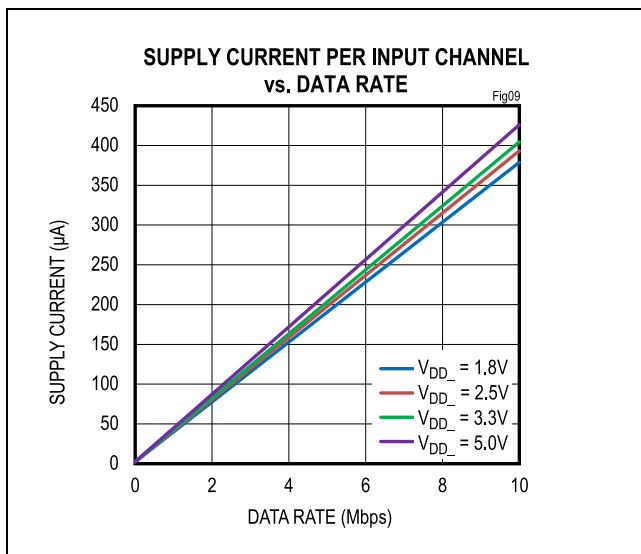
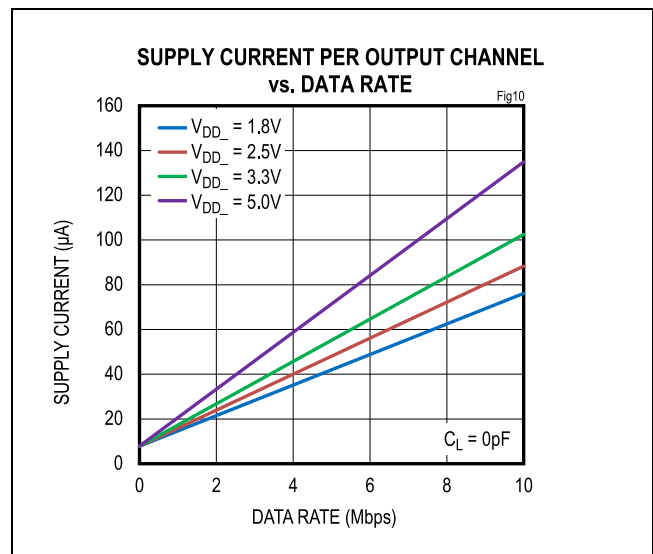

Figure 9. Supply Current per Input Channel (Estimated)
Figure 10. Supply Current per Output Channel (Estimated)
The required current for a given supply ( $V_{DDA}$  or  $V_{DDB}$ ) can be estimated by summing the current required for each channel. The supply current for a channel depends on whether the channel is an input or an output, the channel's data rate, and the capacitive or resistive load if it is an output. The typical current for an input or output at any data rate can be estimated from the graphs in Figure 9 and Figure 10. Note that the data in Figure 9 and Figure 10 are extrapolated from the supply current measurements in a typical operating condition.
The total current for a single channel is the sum of the no load current (shown in Figure 9 and Figure 10), which is a function of voltage and data rate, and the load current, which depends on the type of load. Current into a capacitive load is a function of the load capacitance, the switching frequency, and the supply voltage.
- Channel 1 is an output channel operating at 2.5V and 2Mbps, consuming 23.93µA, estimated from Figure 10.
- Channel 2 is an input channel operating at 2.5V and 10Mbps, consuming 393.35µA, estimated from Figure 9.
- Channel 1 is an input channel operating at 3.3V and 2Mbps, consuming 82.92µA, estimated from Figure 9.
- Channel 2 is an output channel operating at 3.3V and 10Mbps, consuming 102.49µA, estimated from Figure 10.